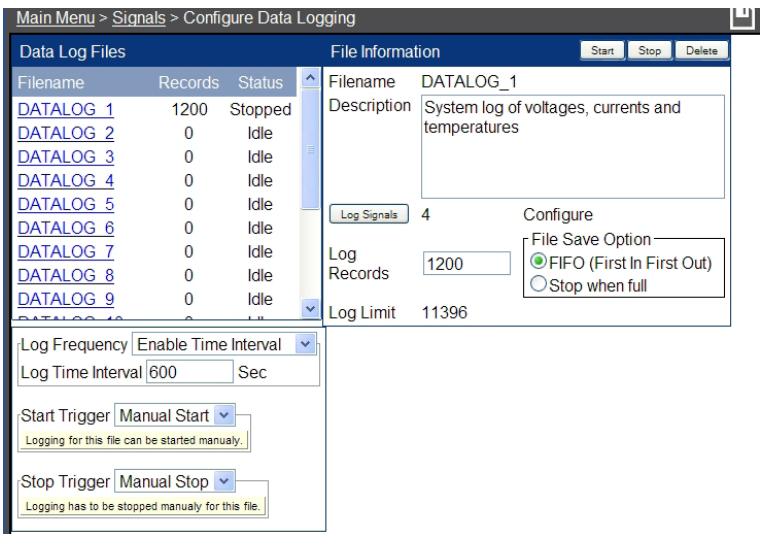

Figure 96 — Configure (Signals) Data Logging web interface window, example one
- 12. Start the log by clicking the **Start** button located next to the File Information heading (see Figure 96. Once the data has collected for the desired interval, return to this window and click the **Stop** button.